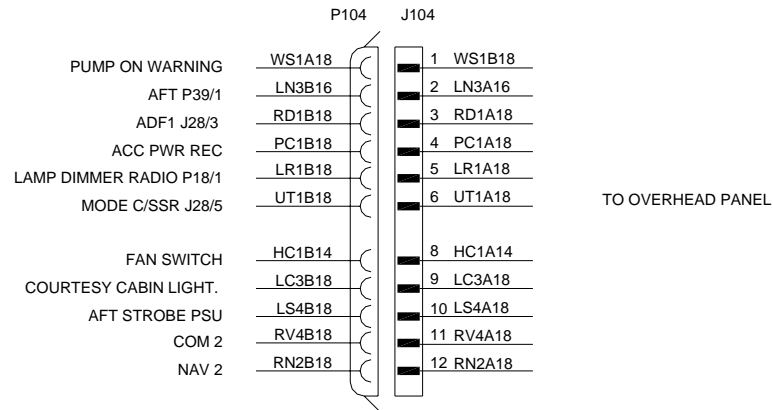

Figure 1
- 1.2. The affected connectors P104 and J104 are located port side just aft end of the electrical overhead panel. Refer to Figure 1. Remove the forward most centre interior roof panel to access the connectors. Pin 8 of the connectors are used for the blower fan circuits, HC1A14 and HC1B14.
- 2.1. Replace the electrical plug and cap housing and associated crimp contacts as per original aircraft wiring. Connector P104 requires housing part number 1-480708-0. Connector J104 requires housing part number 1-480709-0. Refer to Figure 1 of this Service Bulletin for the pinout for each connector. The 18AWG wires require crimp contacts 350689-1 & 350690-1. The 14 and 16 AWG wires require crimp contacts 350547-1 and 350550-1. Crimp tool HTR 11-01-0084 (Sargent Tools) is recommended for this task. Use nest A for 18 AWG wire and nest B for the 14 and 16 AWG wires.